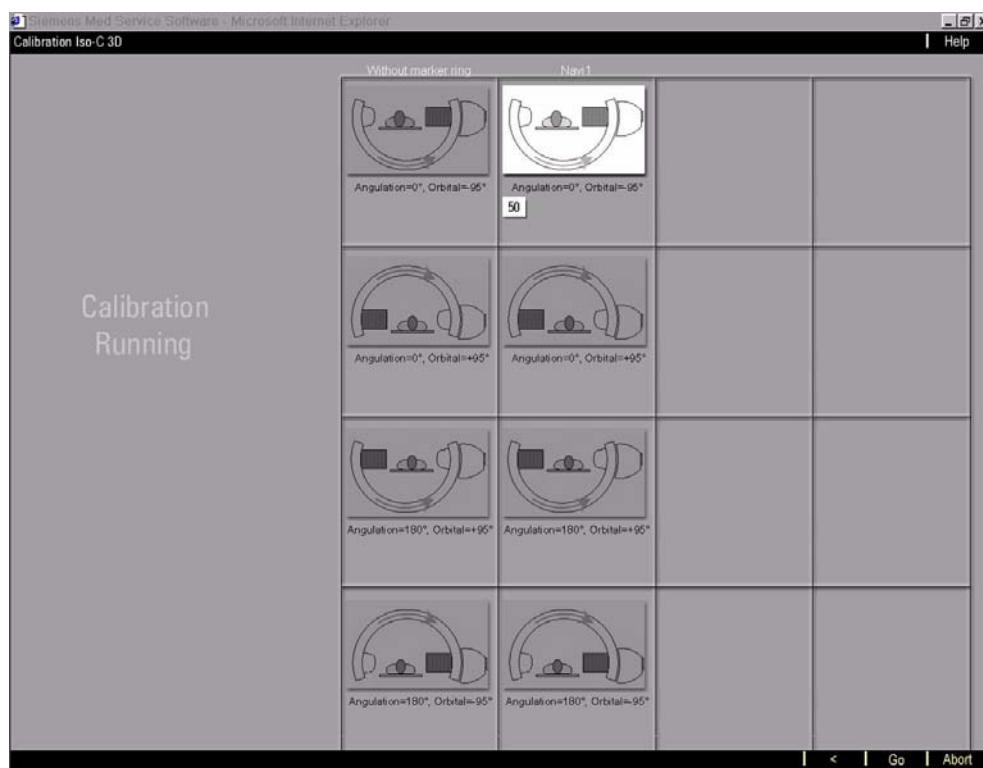

Fig. 14
- Press the left foot switch, the measuring run is released by this. Keep the foot switched pressed down (Fig. 14).
- Press the left foot switch, the measuring run is released by this. Keep the foot switch pressed down (Fig. 14).